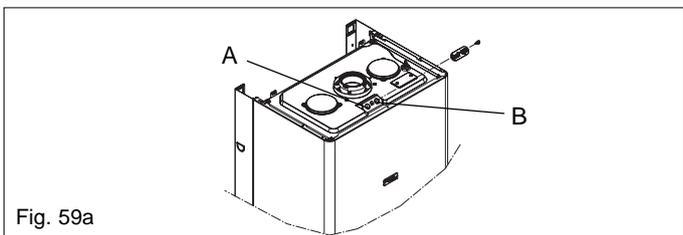

Fig. 59a
Isolate the boiler from the electrical supply and remove the casing as described in Fig. 33. Set the flue gas analyzer to read CO2 and insert the probe into the flue analysis test point (Pos. B in Fig. 59a). Restore the electrical supply to the boiler and switch the boiler to the OFF mode. To adjust the gas valve you must first ensure that the fan speed potentiometers (trim pot) have been set correctly (Tab. 10).
- Insert the flue gas analyzer probe into the flue gas test point (Pos. B in Fig. 59a).